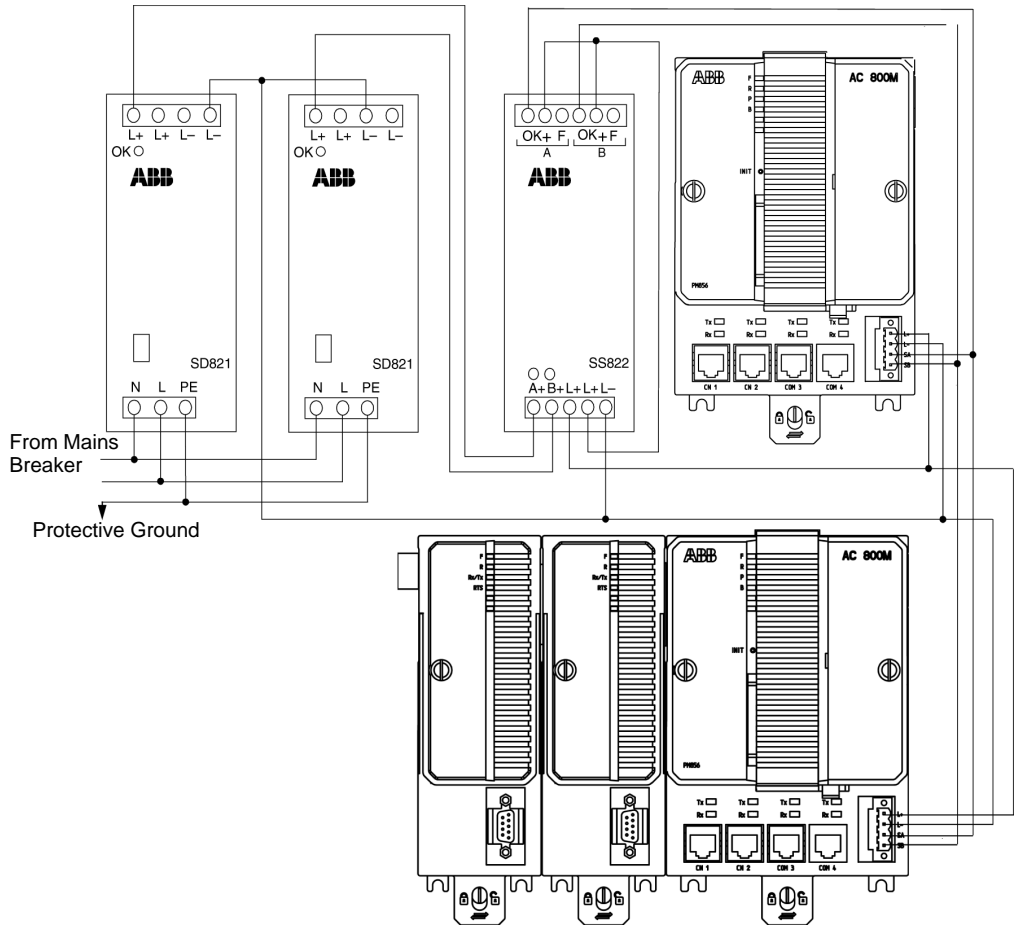
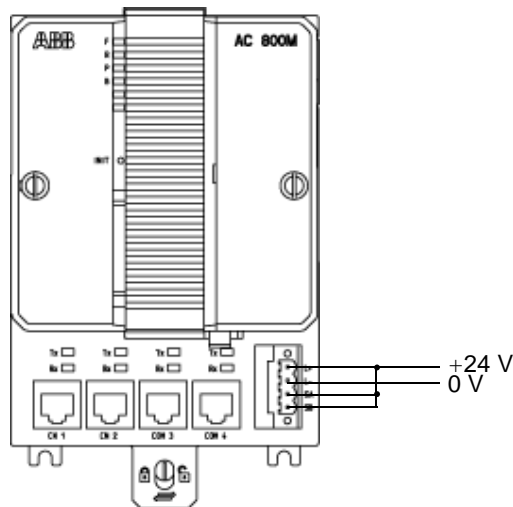
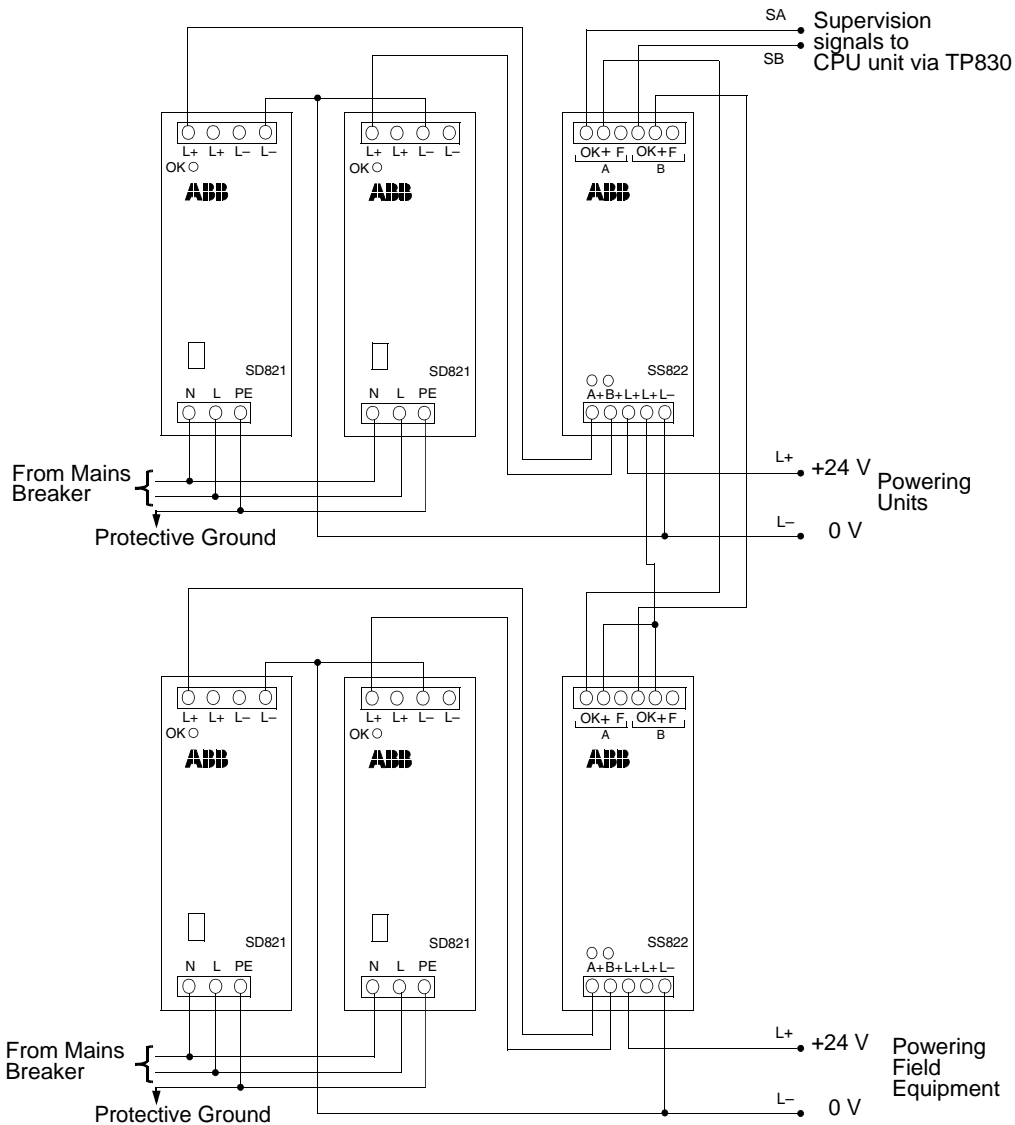

Figure 2.37: Redundant Power Supply Powering Redundant CPUs
Figure 2.38: Connection of SA/SB using Single Power Supply
Figure 2.39: Redundant Power Supply Powering Units and Field Equipment
3. Connect the SS82x voting unit to the processor unit. Figure 2.37 on page 136 shows the connection to PM857/PM858/PM861/PM862/PM863/PM864/PM865/PM866/PM867 in redundant configuration.
+ 24 V on the SA/SB indicates working power supplies. 0 V on SA/SB indicates an error in the corresponding power supply and lack of redundancy. SA/SB signal connection is shown in Figure 2.37 on page 136, Figure 2.38 on page 137 and Figure 2.39 on page 138.
Figure 2.37 on page 136 show redundant power supplies powering AC 800M units. Here the SA/SB signals also indicate physical power supplies.
Figure 2.39 on page 138 shows one redundant power supply powering the AC 800M units and one for powering field equipment. An SA/SB error indication can not indicate which physical power supply that has failed, only that there is a failure.
To avoid error indications from SA/SB when single power supply is used, it is recommended to connect the input terminals SA/SB on the CPU to +24 V, see Figure 2.38.